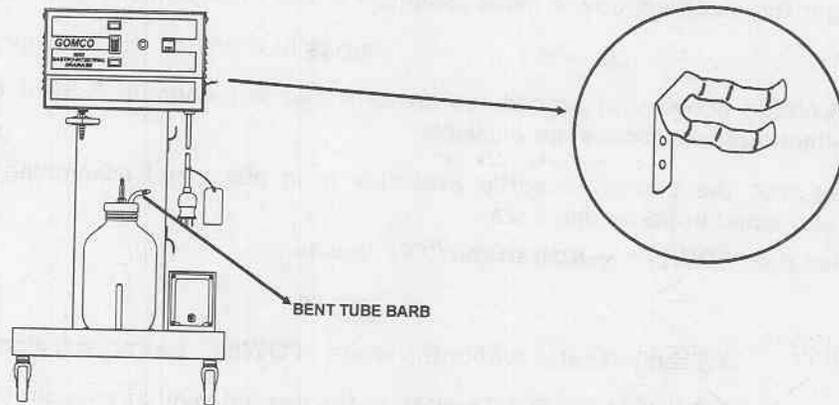

Figure 2-5. Devilbiss hook.
(3) Connect the long (72-inch) length of PVC tubing to the bent tube barb on the cap assembly. Then, press the other end of the tubing into the Devilbiss hook on the right side of the control/pump module (fig 2-5).